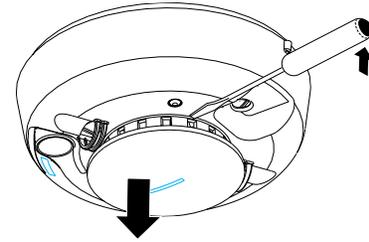

Figure 5. Removing Alarm Cap
4. Slide a flat-blade screwdriver in the slot on the alarm cap and gently push the handle down to pry the alarm cap up and off. See Figure 5.